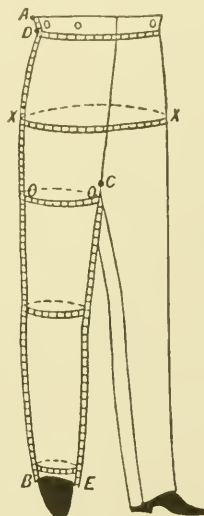

Fig. 1
7. The First Measure.—The outside length is taken from point D, which should be the top of the hip bone *always* (not from top of trousers), to point B, the sole of the shoe, near the front of the heel (see Fig. 1). If the customer should be very fleshy, and it is hard for you to locate the top of the hip bone, have the customer locate it for you.
9. The Third Measure is the waist. Standing in front of the customer, raise the vest in front and with the tape in the right hand follow the waistband around to the back, meeting it with the left hand; carry the tape to the front, and with the thumb of the left hand resting on the first inch, the thumb outward, carry the tape past with the right hand in a medium close measure, taking care that it is up above the hip bone, but on the trousers. (See Fig. 1, point D.) Call out the figures or mark it down.
12. **The Sixth Measure** is the thigh. The thigh is taken right below the trunk or body on the right leg, close up to the fork or crotch, and is taken close or *actual* measure of the thigh (marked O, Fig. 1).